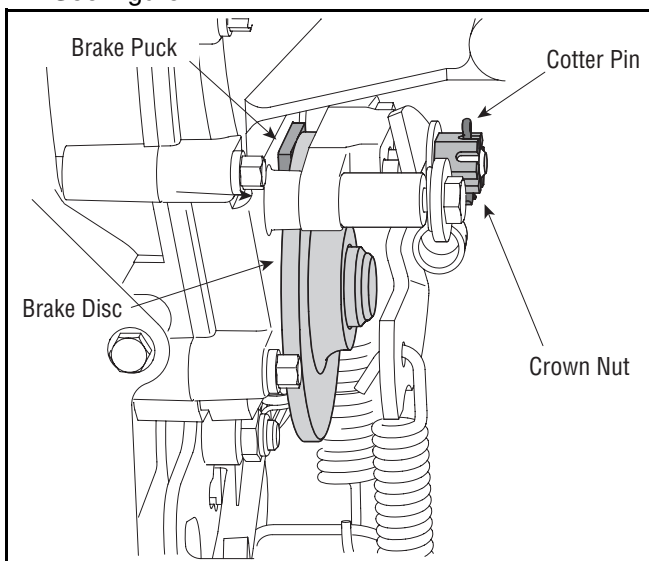

Figure 11
- Looking at the transmission from the right side of the tractor, locate the brake puck and brake disc. See Figure 11.